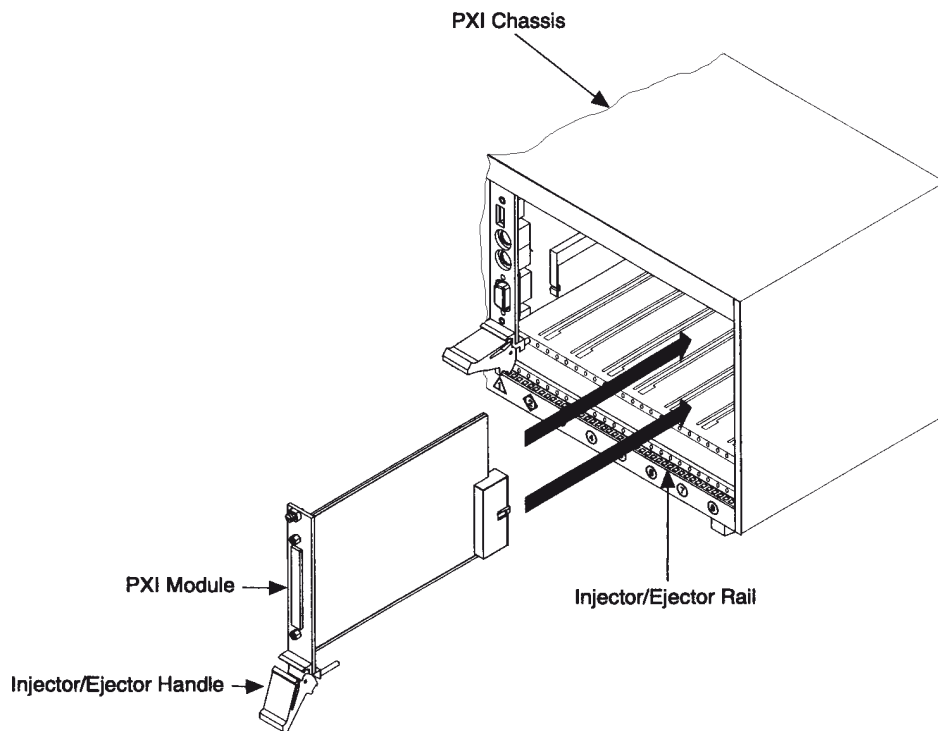

Figure 3.1 - Installing the module into a PXI/Compact PCI Chassis
5. Hold the handle whilst slowly sliding the module into the card guides until the handle catches on the injector/ejector rail (refer to Figure 3.1).